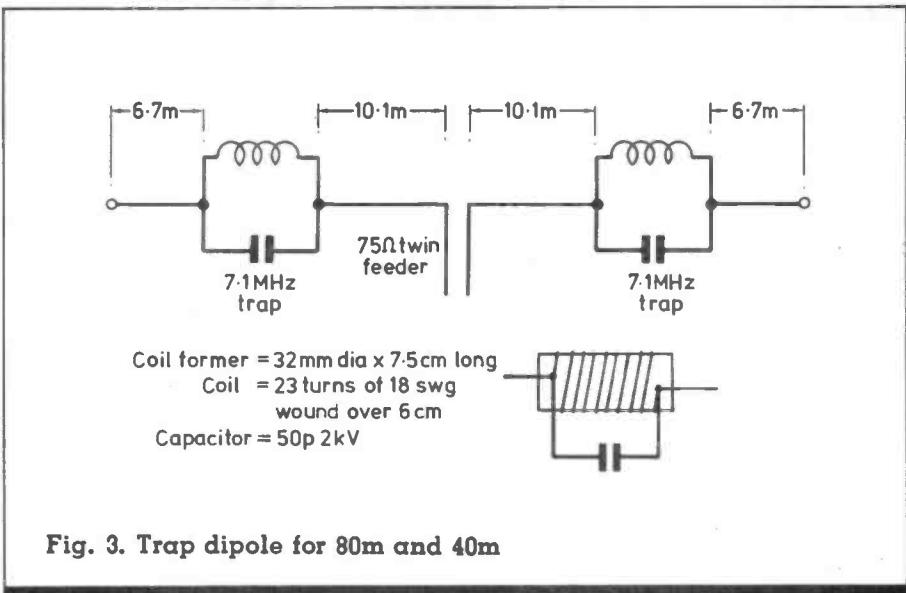

Fig. 3. Trap dipole for 80m and 40m
After some time of operation on 80m it was decided to see how a low dipole would work on 40m DX. As 80m operation was still required a W3DZZ type trap dipole antenna was constructed from data (1) as in Fig. 3. The coils were wound on off-cuts of plastic drain pipe, adjusted to resonance on 7.1MHz with a grid dip oscillator and coated with varnish for weather protection.
8. On Fig. 3 (PCB layout) the TX/RX switch is shown wrongly wired — points 'B' & 'E' should be on the same side of the switch, not 'B' & 'D' as shown.